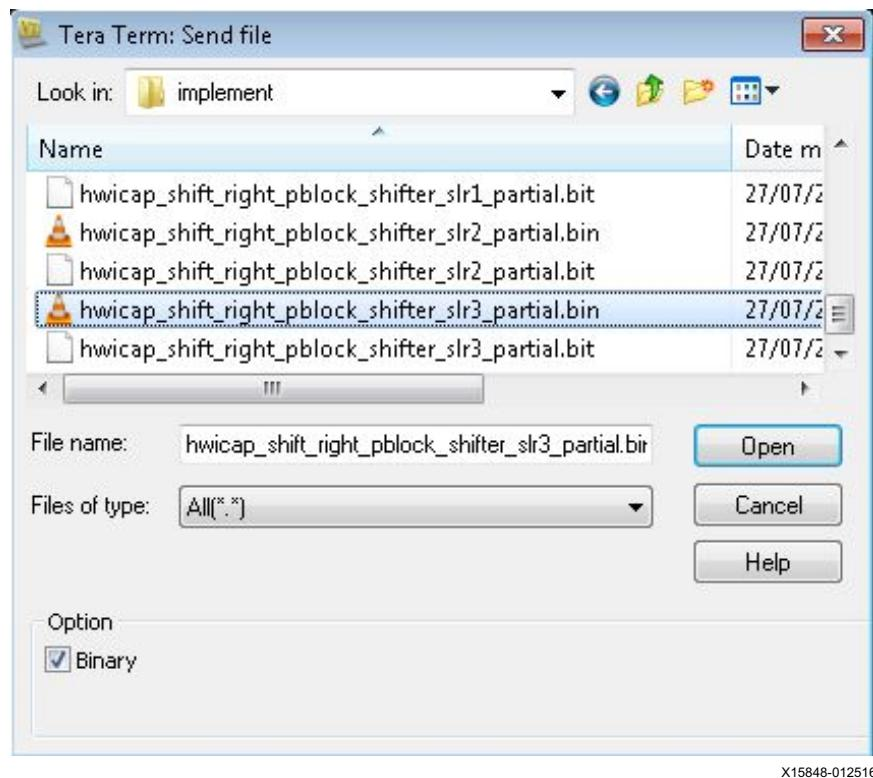

Figure 20: Sending Bin File over UART Connection
5. Select File → Send file in Tera Term, then select your partial BIN file and ensure the binary box is checked (Figure 20).